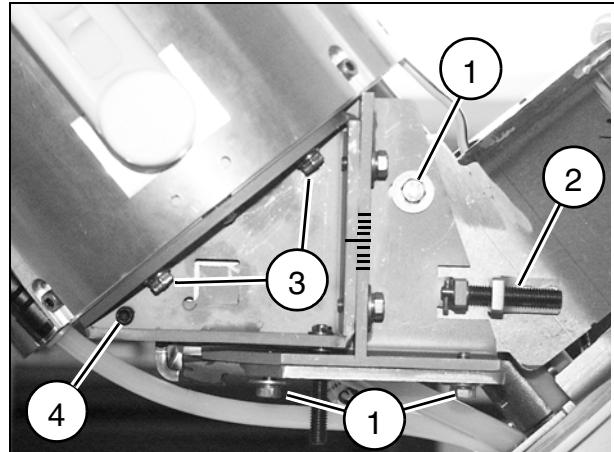

Fig. 2
- **A:** Loosen the screws (1/Fig. 2) on both sides.
- Shift it with the screws (2/Fig. 2).
- Retighten the screws (1/Fig. 2) on both sides.
- **B:** Loosen the screws (3/Fig. 2) on both sides.
- Shift it with the screws (4/Fig. 2).
- Retighten the screws (3/Fig. 2) on both sides.